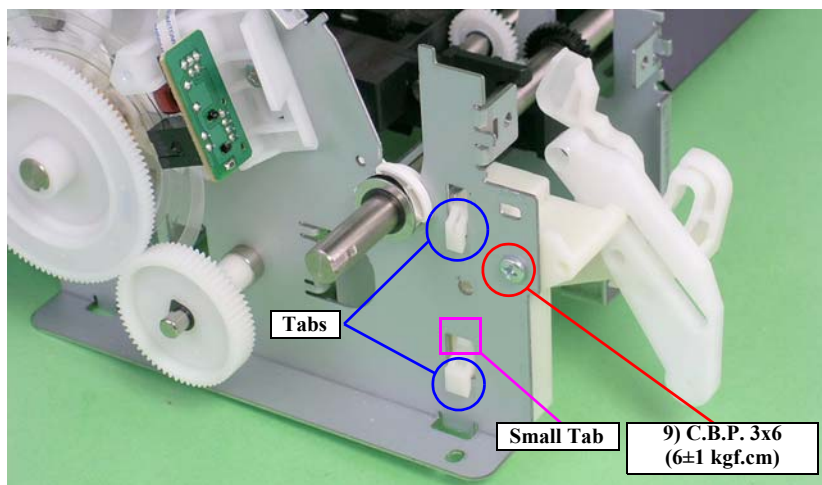

Figure 4-93. Removing the Left CD-R Release Lever Sub Assy
- Align the two tabs on the Left CD-R Release Lever Sub Assy with the positioning holes on the Main Frame. See Figure 4-93.